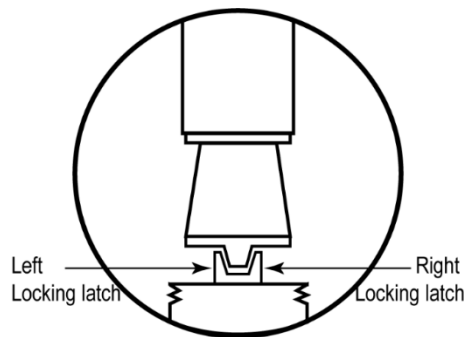

Figure 2: Locking latches of the ON/OFF/ARM Switch
- (e) Do a visual check of the locking latches of the ON/OFF/ARM switch: make sure that the 4 locking latches are not damaged as described in Figure 2.